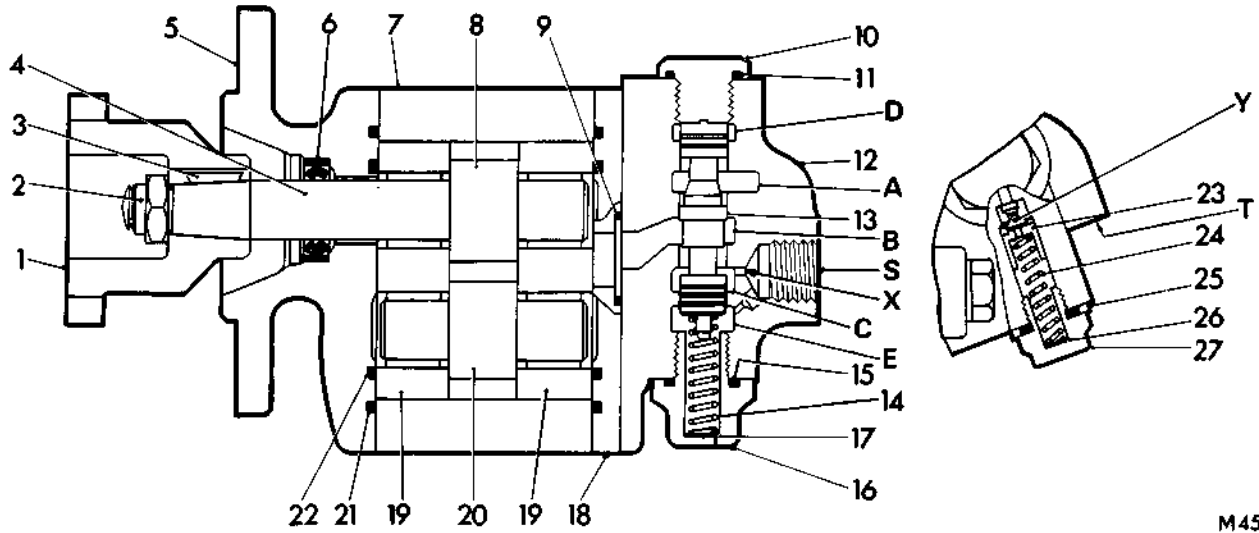

FIG. 1. SECTION VIEW OF PUMP, FLOW VALVE AND RELIEF VALVE
**Flow Control Valve and Pressure Relief Valve Operation (Fig. 1)**